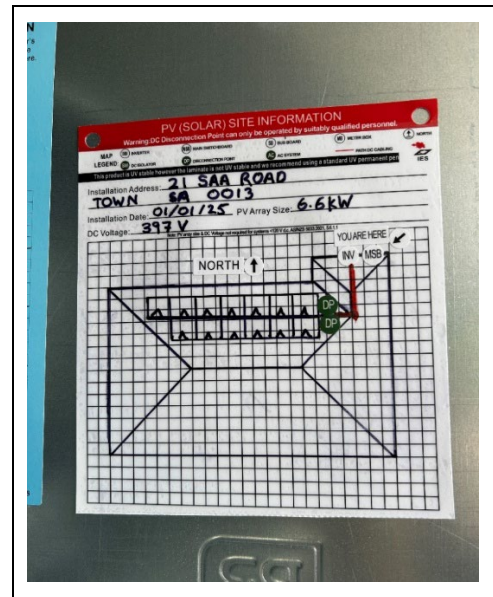

Figure 3: Hand drawn solar system layout compliant with all requirements.
1. **Carry hand-drawn solar system layout templates** in the work vehicle, allowing them to be clearly completed with a permanent marker at the end of each job, in accordance with Figure 3.